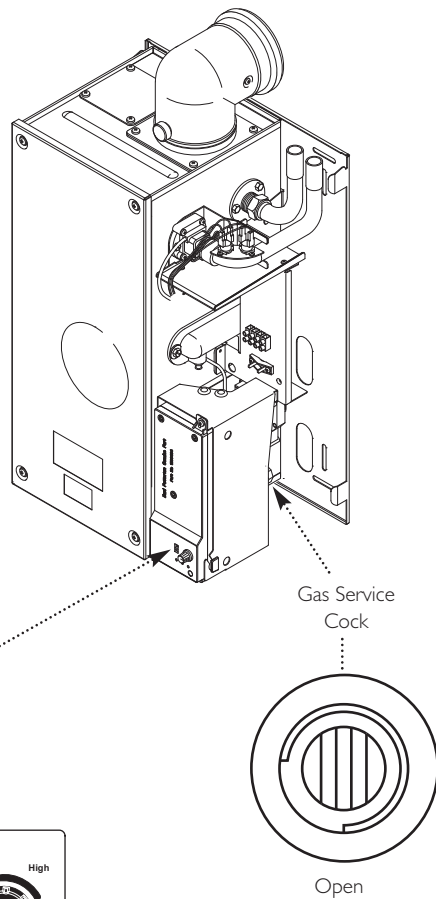

Fig. 34
7. Remove the top RH securing screw and hinge down the PCB housing to gain access to the gas service cock (see Fig. 32). Turn the gas service cock anticlockwise to the ON position and check for gas tightness up to the gas valve (Fig. 34).